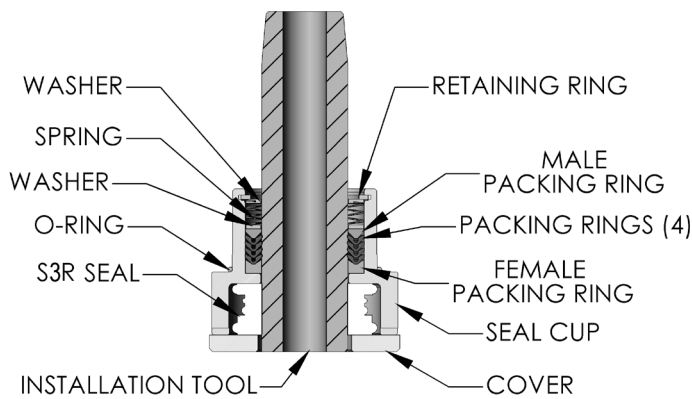
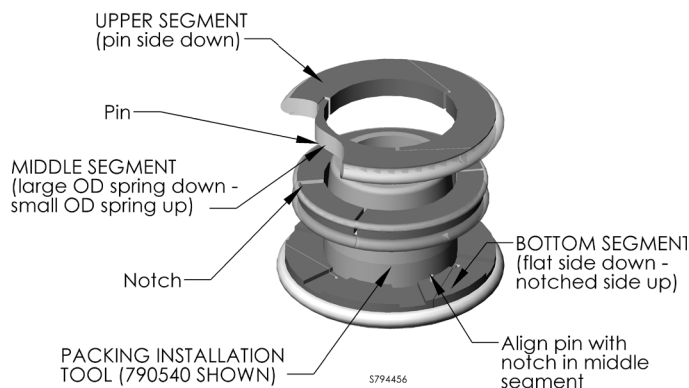

Figure 11a – Seal Cup Assembly
Figure 11b - S3R Oil Seal Installation
- g. Install the S3R seal in the seal cup as shown in figure 11a. Place the S3R seal on the packing installation tool in the order shown in figure 11b, with the upper segment toward the tapered end of the installation tool. Insert the installation tool, with the S3R seal, into the seal cup, with the tapered end toward the packing rings. Place seal cup cover on seal cup and secure with two capscrews